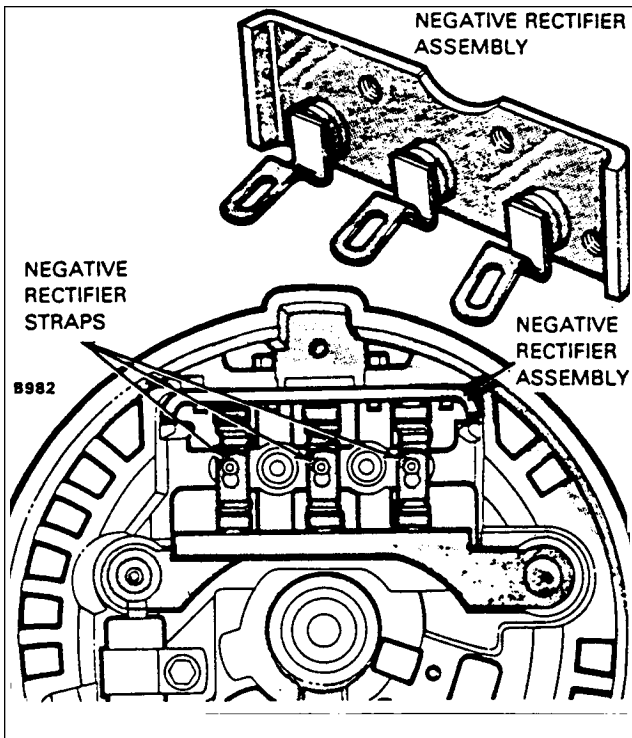

Figure 24-26. Installation of Negative Rectifier Assembly
15. Position stator over rectifier end shield assembly and place winding terminals on terminal block studs. Press stator into end shield, install terminal nuts and tighten to a torque of 11 to 17 inch-pounds. (Refer to figure 24-26.)